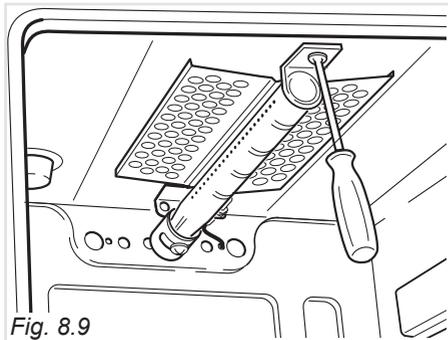
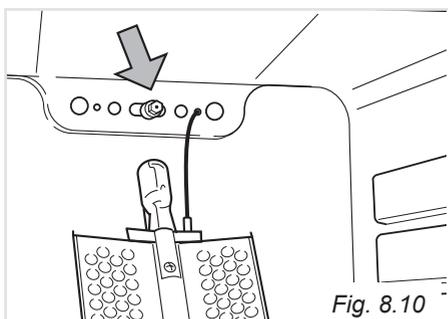

Fig. 8.9
Fig. 8.10
- Remove the burner by unscrewing the front screw (fig. 8.9). Gently suspend the burner as shown in figure 8.10.
- Using a 7 mm box spanner, replace the injector (indicated by the arrow in fig. 8.10) by the proper one according to the kind of gas.